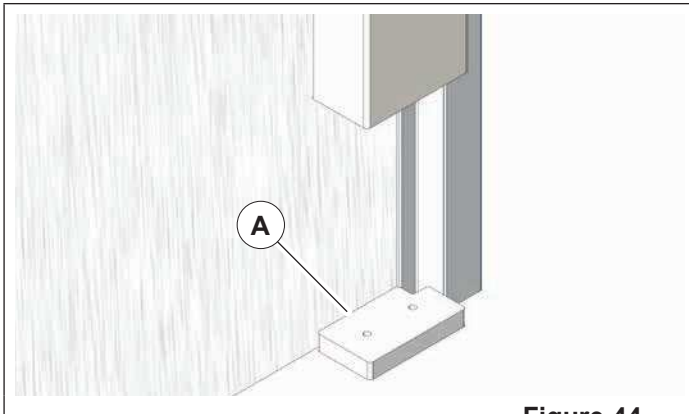

Figure 44
2. With curtain fully open, route counterweight belt with 1 1/2 pre-wraps coming off the front of the pulley (B). Place a 3in [76mm] spacer on top of the bottom block. Lift and attach the counterweight to the belting.
3. Lift counterweight guard (C) over the bottom plate (Figure 44) and attach with the 2 bolts, lock washers, and flat washers.